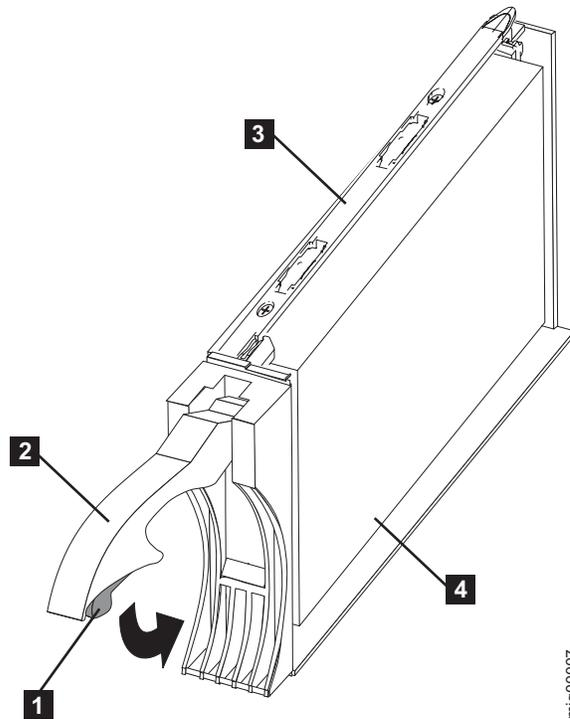

Figure 18. Drive CRU assembly
**Note:** Your drive CRUs might have a different latching mechanism than the one shown in Figure 18 on page 65. Refer to the *Installation, User's, and Maintenance Guide* for your particular storage expansion enclosure for details.